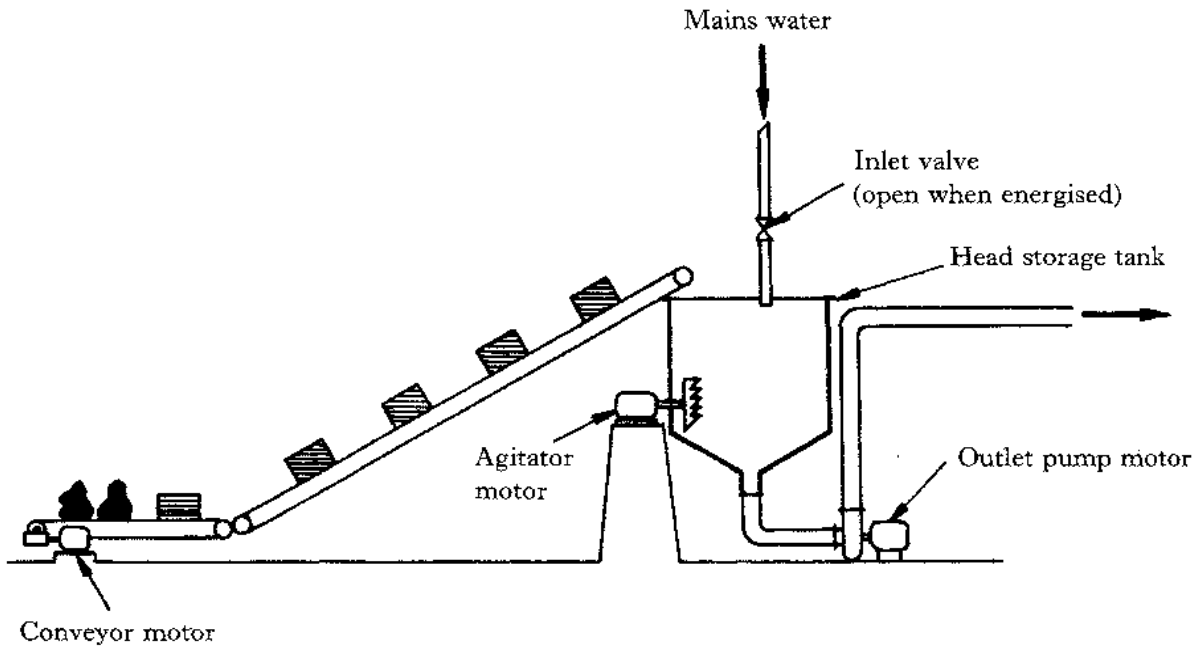

Figure Q10A
10. Figure Q10A shows the layout of a pulping machine used in a paper mill. A batch, consisting of bales of wood pulp and bags of filler, is mixed with controlled volumes of water during the pulping process.